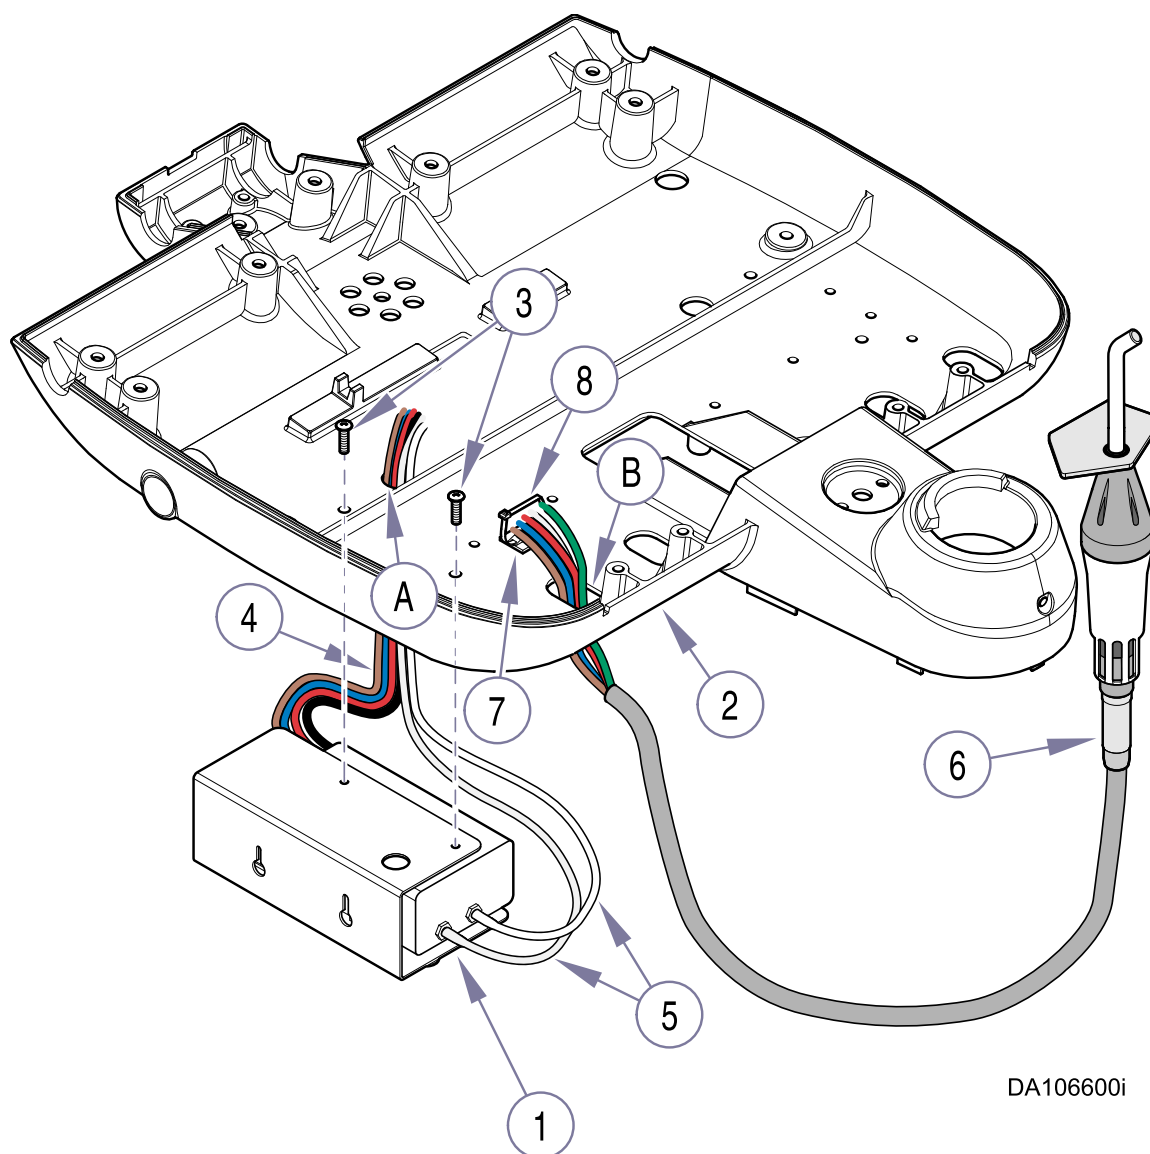

Figure 2. Electric Handpiece Components Installation
(1) Install electric handpiece bracket (1, Figure 2) on bottom side of delivery unit housing (2) and secure with two screws (3).
(2) Feed four 18" wires (4) [black, red, blue, and brown] up thru wire hole (A).
(3) Feed two 3/16 in. clear tubes (5) up thru wire hole (A).
(4) Run curing light handpiece tubing (5) up thru tubing hole (B) in delivery unit housing (2).
(5) Secure electric handpiece tubing (6) to delivery unit housing (2) with clamp pad (7) and cable tie (8).